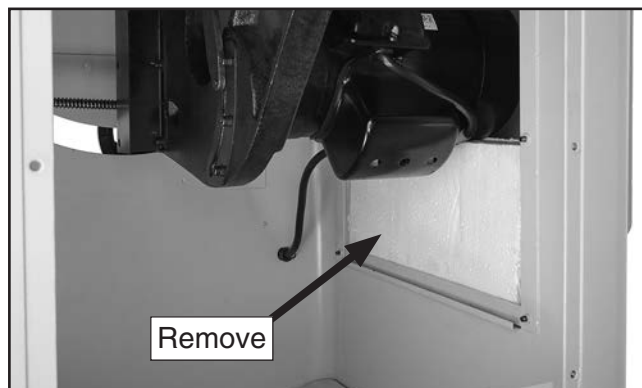

Figure 27. Location of styrofoam block to be removed.
14. Raise motor slightly, using blade height handwheel, and remove styrofoam block that supports motor during shipping (see **Figure 27**).